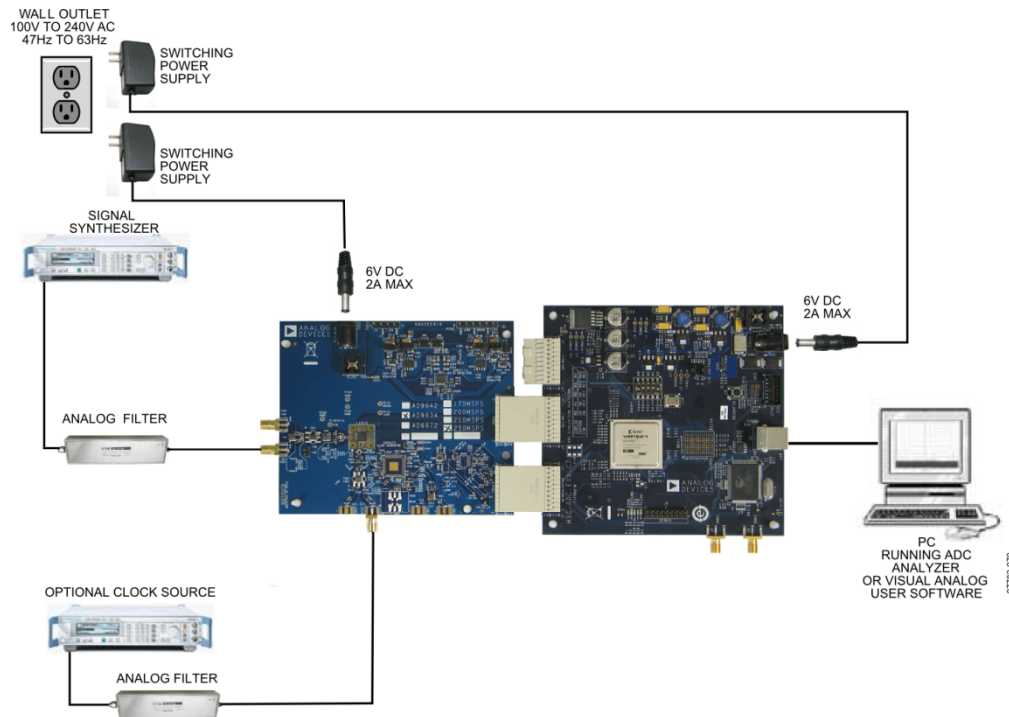

Figure 1: AD9634 Evaluation Board with HSC-ADC_EVALCZ Data Capture Board
1. Connect the AD9634 evaluation board and the HSC-ADC-EVALCZ board together as shown in Figure 1.
9. Next open the SPI Controller software. If prompted for a configuration file, select the configuration file titled AD9634_12Bit_205MSspiR03.cfg. If not, check the title bar of the window to see which configuration is loaded. If necessary, choose "Cfg Open" from the "File" menu and select one of the configuration files named above. Note that the CHIP ID(1) field may be filled whether the correct SPI Controller configuration file is loaded or not.
- Set the DCO Clk Delay Enable checkbox in the FLEXOUTPUT DELAY(17) panel on the ADCBase0 tab as shown below. In addition, set the DCO Clk Delay register to the '600ps additional delay on DCO pin'. Also set the O/P Port DCO Clk Invert checkbox in the OUTPUT PHASE (16) panel. These settings align the output timing with the input timing on the capture FPGA.